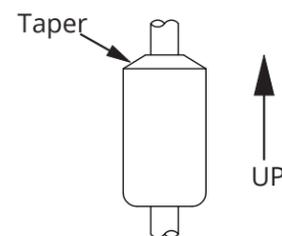

FIGURE 5.1
- The float(s) is/are oriented properly on the stem (See Figure 5.1 below). MPX-E floats will be installed by the factory. MPX-R floats are typically installed by customer.